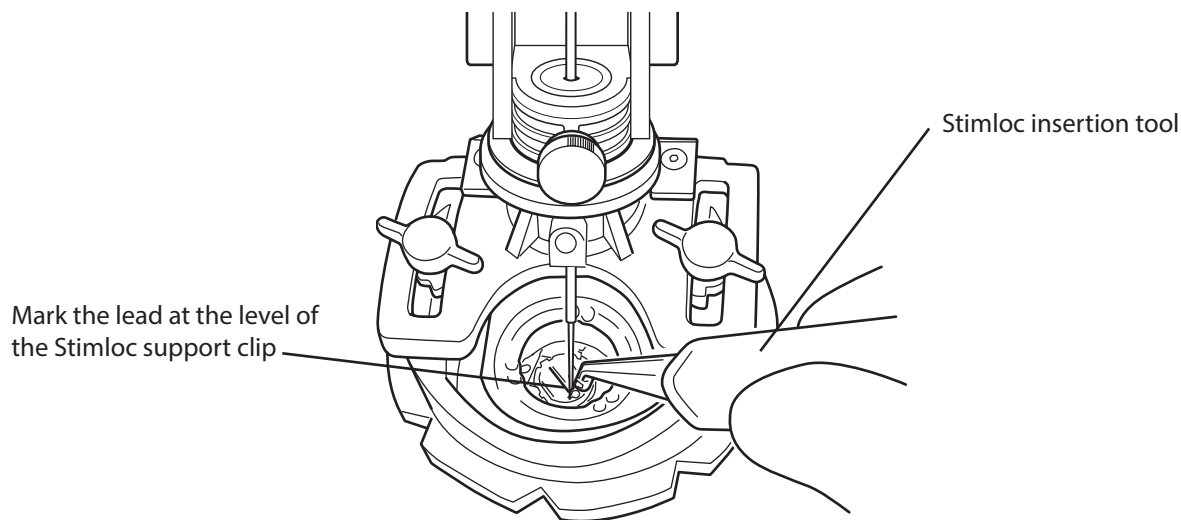

Figure 29. Capture the lead with the Stimloc support clip using the appropriate insertion tool.
2. Capture the lead with the Stimloc support clip with the appropriate insertion tool (Figure 29).
3. With a sterile pen, mark the lead at the level of the Stimloc support clip (Figure 29).